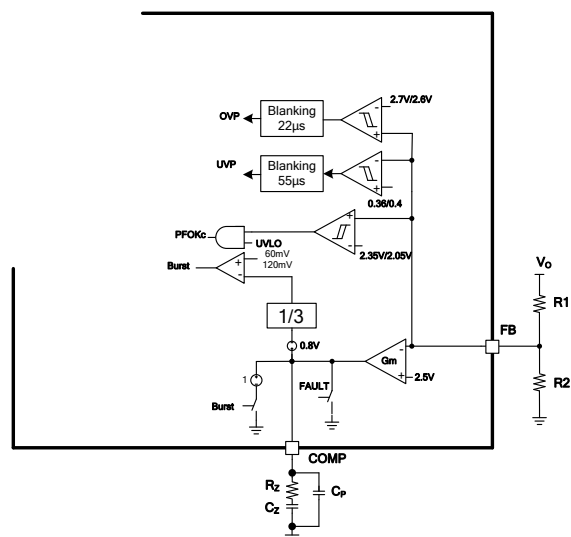

Figure 13: FB Function Block
The boost PFC output voltage is sensed on FB, and is compared with the internal reference V_R (typically 2.5V) (see Figure 13 on page 19). R_{O1} is recommended to be 10M Ω to minimize power consumption. R_{O2} can be calculated with Equation (1):
Figure 13 shows that if the FB voltage exceeds the OVP trigger threshold (typically 2.7V), the OVP comparator shuts down the output of the gate drive circuit after a blanking time (t_{BL_OVP}) of 22 μ s. Switching resumes when FB drops to 2.62V.